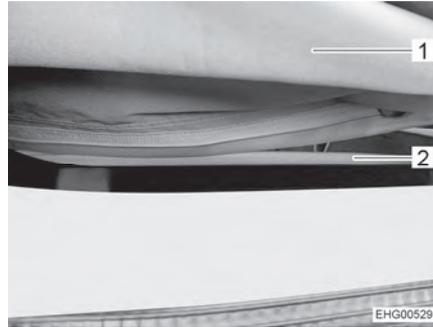

Fig. 57 Zip
- Fully open the zip (Fig. 57,2) on the underside of the bellows (Fig. 57,1).